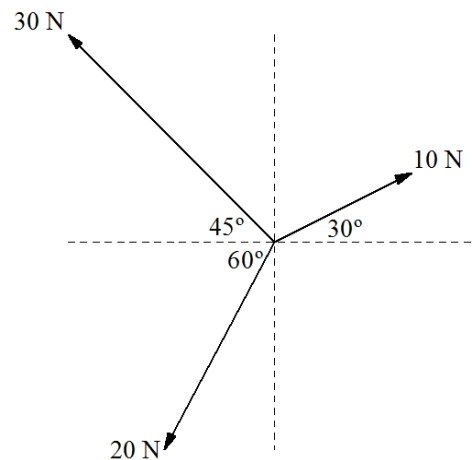

Figure 01(a)
01. (a) Determine the resultant of the system of concurrent coplanar forces shown in Figure 01 (a)